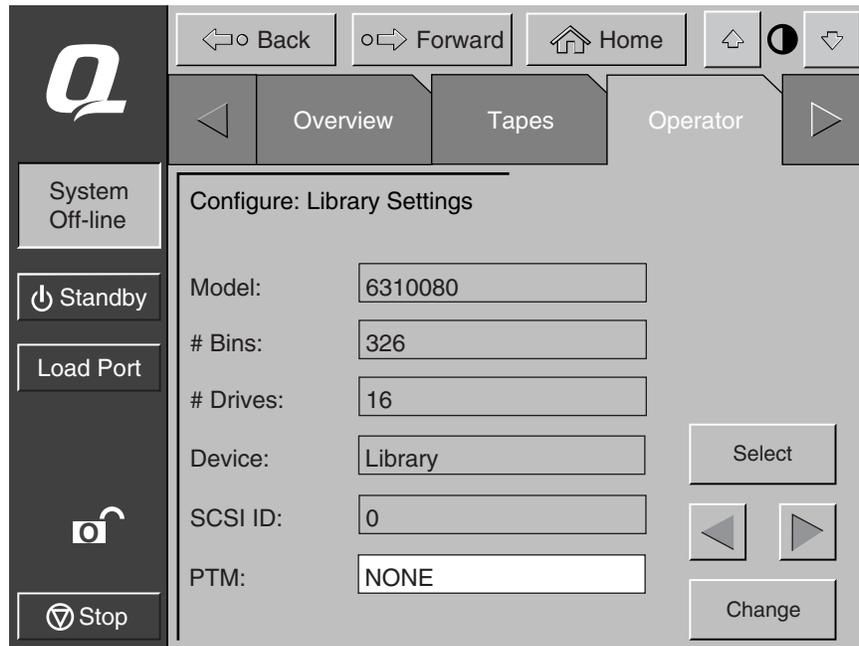

Figure 3-2. PTM selection screen (ESL9326 shown)
2. Go to the PTM field on the screen and set the PTM field to None, Left, Right, or Both (see Figure 3-2).